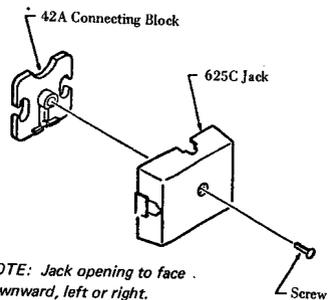

FIGURE 12. Conversion of 42A Connecting Block Using 625C Jack
(1) The jacks are mounted on a baseboard or similar mounting surface with the jack opening facing downward or to the left or the right.
(2) Inside wiring is routed through the desired slot and connected to the appropriate terminals.
(3) The NT-625QA4 cover has knockouts to permit alternate wiring entries. The cover snaps over the jack base. To remove cover, insert a screwdriver in the slot on either side of the rear wire entry hole and twist screwdriver.
(4) The cover of the 625A (625C) is secured by a center screw.
b. The 625C is to convert existing 42A connecting blocks to accept plug-ended mounting cords. Remove the cover from the 42A block. Connect the leads from the 625C jack to the matching colors designated on the 42A block. Mount the jack on the connecting block with the screw provided. See Figure 12.